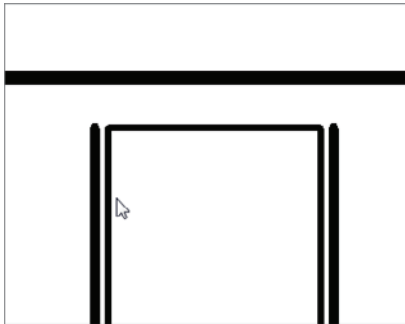

FIGURE 12.66 Offsetting the heavy lines 3/8" to the right and to the left
7. Offset the left and the right lines, as shown in Figure 12.66.